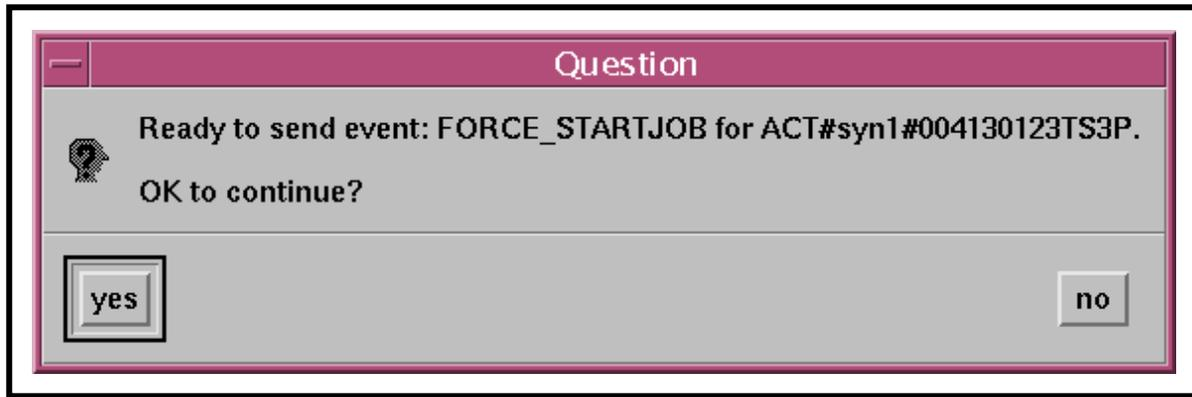

Figure 76. Send Event GUI Confirmation Dialogue Box
- A confirmation dialogue box similar to Figure 76 is displayed requesting permission to proceed with sending the event.
- A confirmation dialogue box similar to Figure 76 is displayed requesting permission to proceed with canceling the event.